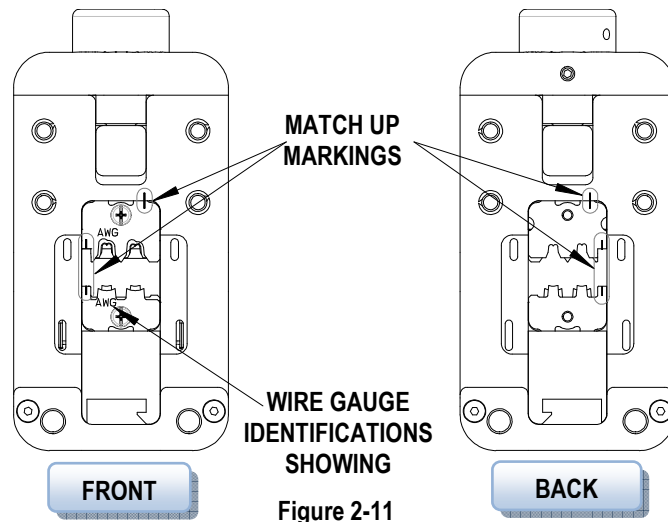

Figure 2-11
4. Make sure the small markings on the individual dies match up and wire gauge identification (AWG) marks should be facing out and aligned as shown in Figure 2-11.